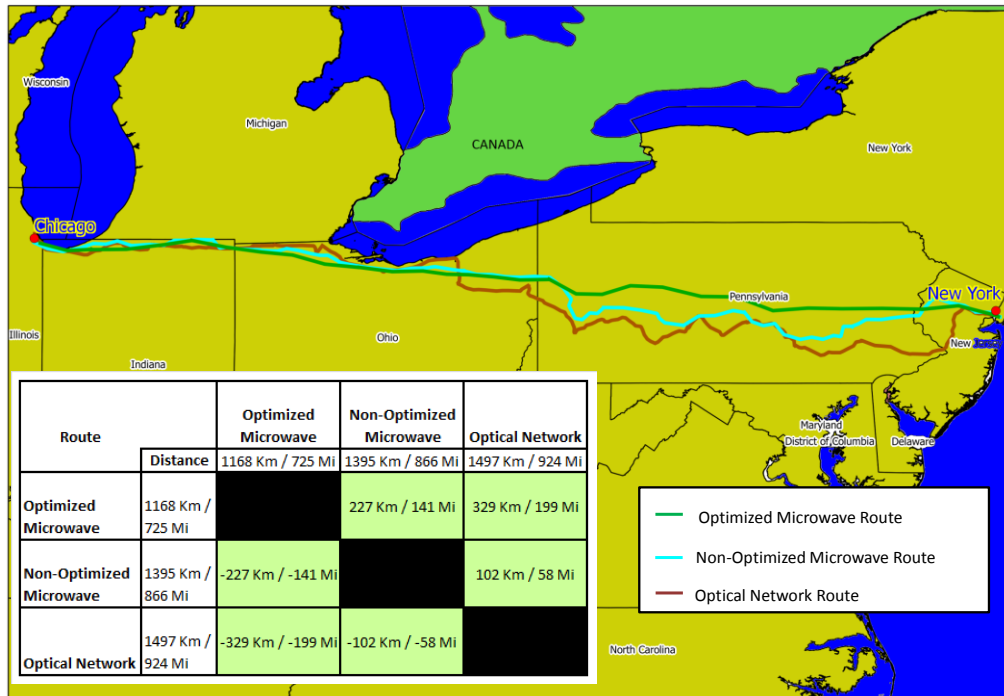
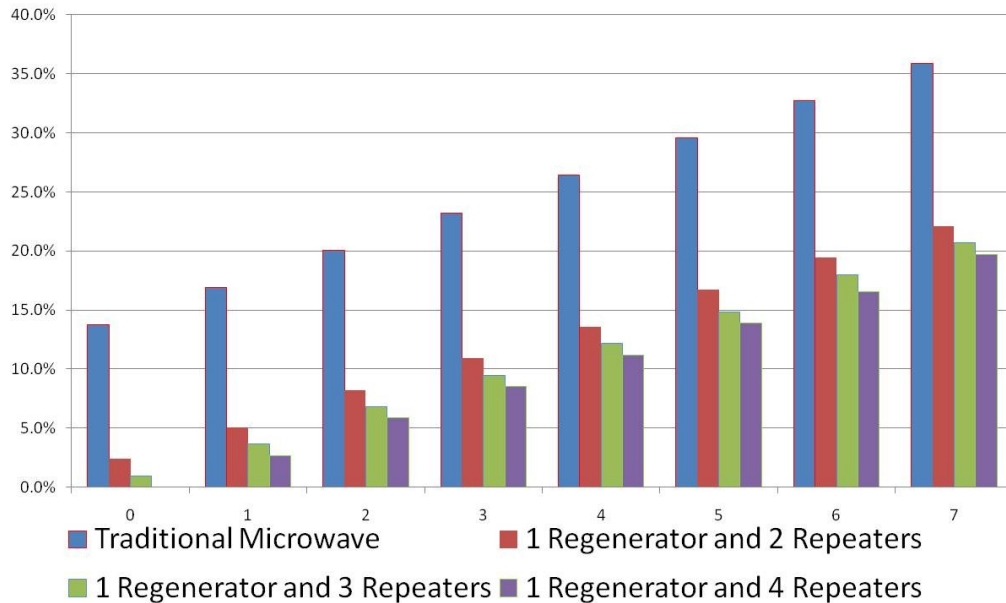

Figure 1. Theoretical Chicago-NY microwave networks using existing towers compared to existing optical network
Figure 2. Latency impact of adding nodes to reference network
- Selection of optimal route:** The minimization of the overall distance between the exchanges is one of the greatest contributors to reducing the overall end-to-end latency. The selection of the optimal route will depend on the location of the sites and towers to use. This selection will have to consider whether existing infrastructure will comply with network design objectives, or if construction of new sites is justified to reduce the overall distance. Figure 1 shows the
Figure 2 shows the impact on latency of adding links to a reference network between Chicago and New York (1168km, 725 miles) shown in Figure 1. Figure 2 shows the increase in latency for traditional microwave without the use of IF repeater technology, and the use of IF repeaters and regenerators in different ratios (1 regenerator to 2, 3 and 4 repeaters). There are many reasons why the number of